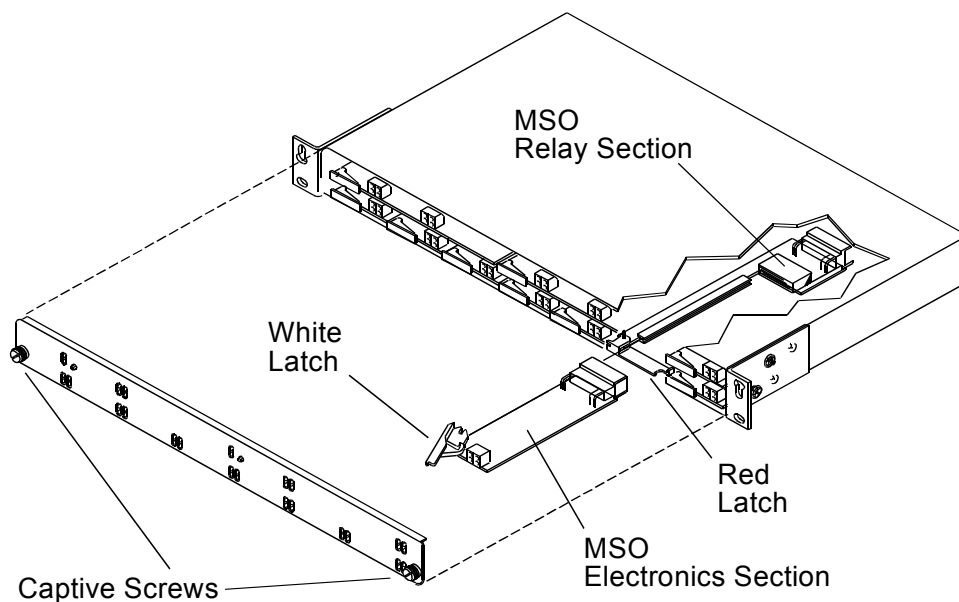
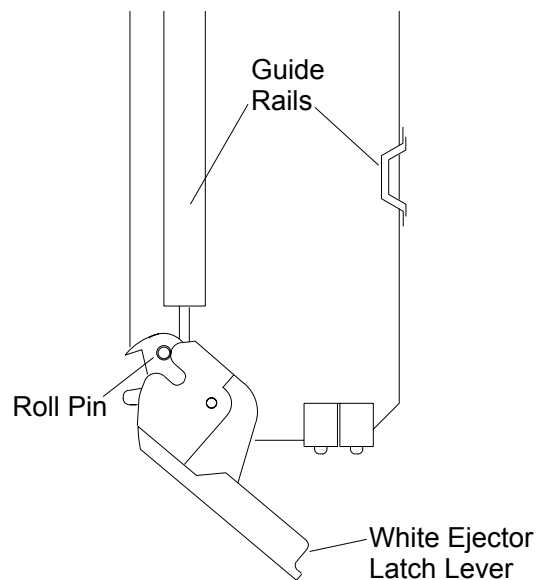

Figure 10-5 Removing an MSO Electronics Section
Figure 10-6 Inserting an MSO Electronic Card
The MSO card has two card ejector latch levers, a white one (the upper one) and a red one (the lower one). See Figure 10-6 and Figure 10-5 on the following pages. The white ejector latches the electronics section of the card to the relay section. The red ejector latch holds both the relay section and the electronics section of the card in the slot position.
1. Use a Phillips head screwdriver to loosen the two fastening screws on the faceplate of the Wide Bank and remove the plate. See Figure 10-5.
3. Pull out the white card ejector latch to release the electronics section of the MSO card from the relay section. Do not disturb the red ejector latch. See Figure 10-6 and Figure 10-5 for the location of the white latch (upper latch) of each MSO Quad card.